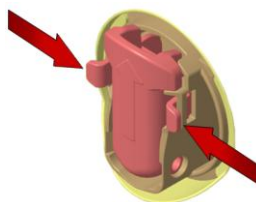

Fig. 2
- press the two tabs that lock the plug closing lever, fig. 2.